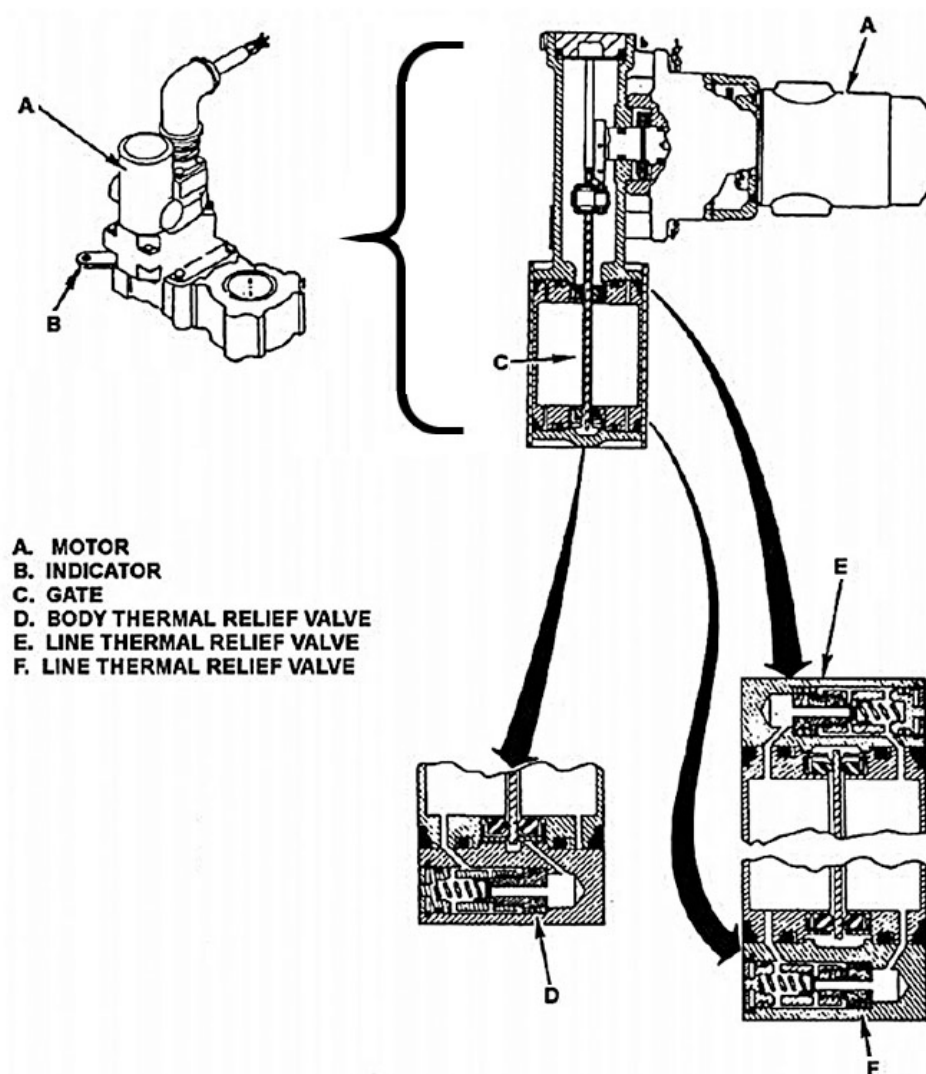

Figure 1-7. Motor-operated sliding gate valve.
The valve shown in figure 1-7 is an electrically actuated unit. The motor (A) is usually operated on direct current. The gearing is positive action and opens or closes the valve in one second or less. There is no provision in the electrical motor circuit to allow partial opening and closing of the unit. Limit switches are provided to prevent over travel, which could cause straining of the gears and valve.